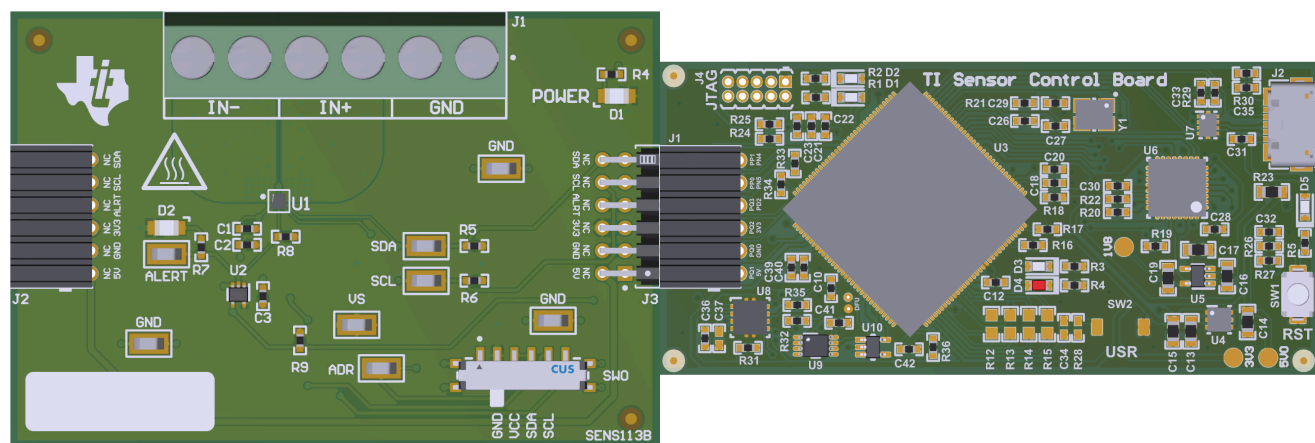

Figure 2-1. EVM (Left) Connected to SCB Controller (Right)
3. Attach the EVM to the SCB Controller as shown in Figure 2-1.
To use the EVM with the SCB Controller (sold separately), connect the EVM as shown in Figure 2-1.